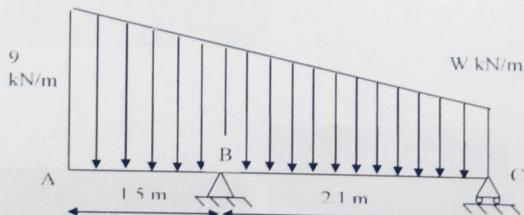

Fig 2.97
- 14) Determine the intensity of distributed load W at the end C of the beam ABC for which the reaction at C is zero. Also calculate the reaction at B. Fig 2.97 (Ans: 22.53kN, 3.52kN)